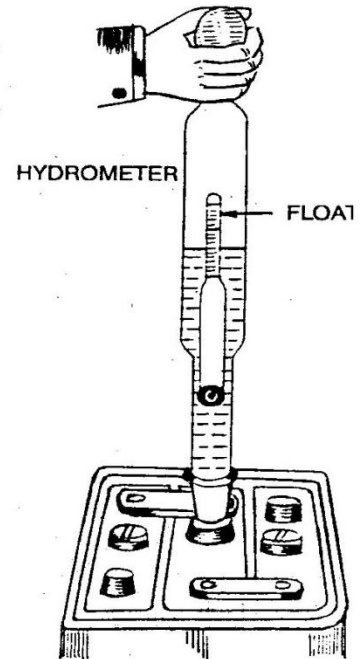

Fig. 3(a)
**Theory :** The condition of the battery is checked by checking the specific gravity of the electrolyte of each cell one by one with the help of a hydrometer after removing the vent caps as shown in Fig. 3(a). The chart given below tells the condition of each cell :